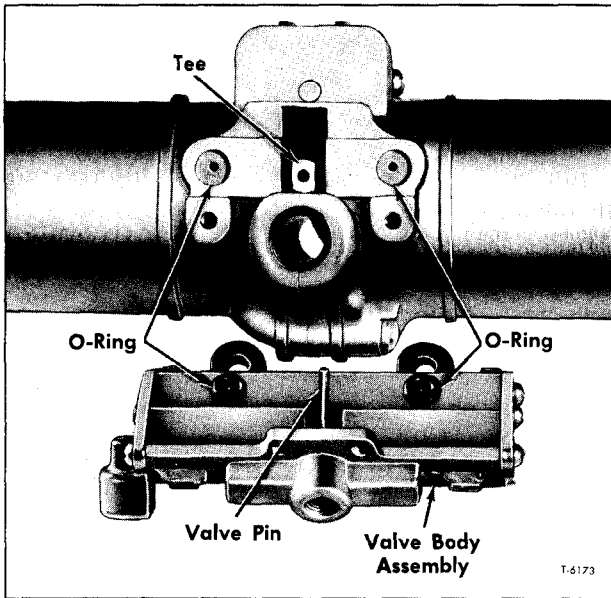

Figure 28—Wiper Motor Valve Body Removed
4. Remove four screws which attach wiper control valve body to motor piston body assemblies. Remove valve body and body O-rings. Figure 28 shows body separated.
6. Referring to figure 28, place O-rings on bosses of valve body as shown. Carefully place valve body to motor piston bodies, then install valve body attaching screws. Tighten screws firmly.